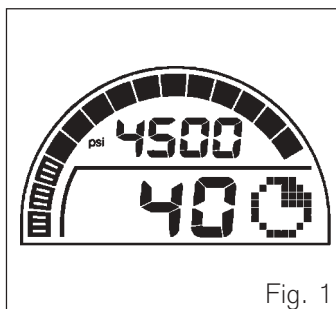
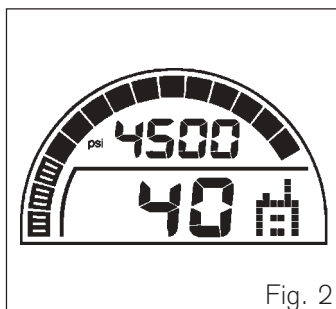
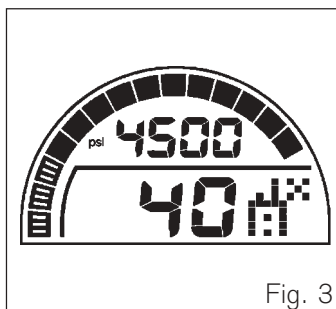

Fig. 1
Fig. 2
Fig. 3
- ◆ Pass the tally key to controller of the Entry Control Board (ECB). The controller will initiate a logon to the ECB. The Green LED on the IR link cover at the rear of the Sentinel begins to flash when the logon is established indicating a successful radio link and the display shows Fig. 1.
If there is a loss of radio contact between the radio of the ECB and the Data Radio Unit then the 'lost' communication icon (Fig. 2) will be displayed on the Sentinel display accompanied by an audible 'bleep' tone. During the communication failure the 'lost' communication icon will be displayed alternating with the normal Sentinel icon (Fig. 1). In addition, the 'Green' LED at the rear of the Sentinel will stop flashing.
Should the wearer of the SCBA make a decision to withdraw from an incident, a signal can be transmitted to the ECB by pressing and holding the RH button of the Sentinel until the radio icon (Fig. 3) is displayed. On observing the radio icon, the wearer should release the RH button. The display of the Sentinel will change back to 'operational mode' (Fig. 1).
To acknowledge the evacuation request to the controller at the ECB the wearer must press the RH button of the Sentinel — a single 'bleep' is emitted. Immediately release the button and the display will change to 'operational mode' (Fig. 1).